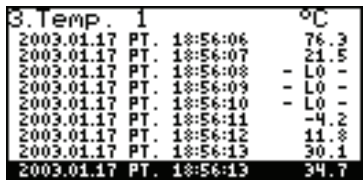

Fig. 6.5. "Measurements list" mode
- "Measurements list" mode (Fig. 6.5) enables the momentary values recorded during the set period of time or averaged values of the conducted measurements for one of the measurement channels to be viewed in numeric form.